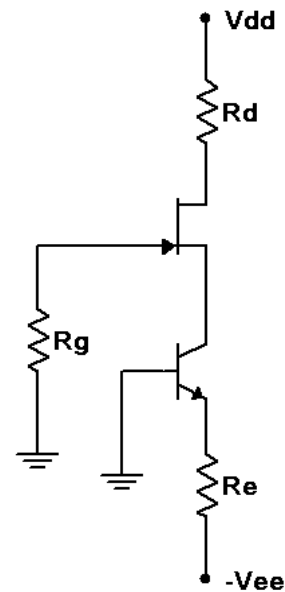

Figure 15.4
9. Consider the circuit of Figure 15.4 using  $V_{dd} = 15$  volts,  $V_{ee} = -5$  volts,  $R_g = 330 \text{ k}\Omega$ , and  $R_d = R_e = 4.7 \text{ k}\Omega$ . Calculate and record the expected voltages for JFET 1 in Table 15.6. Also record the expected drain current in Table 15.7.
10. Build the circuit of Figure 15.4 using  $V_{dd} = 15$  volts,  $V_{ee} = -5$  volts,  $R_g = 330 \text{ k}\Omega$ , and  $R_d = R_e = 4.7 \text{ k}\Omega$ . Measure and record the voltages for JFET 1 in Table 15.6. Based on  $V_D$ , compute and record the experimental drain current in Table 15.7. Also determine and record the drain current deviation.
4. In general, identify two ways of increasing the drain current in the circuit of Figure 15.4.